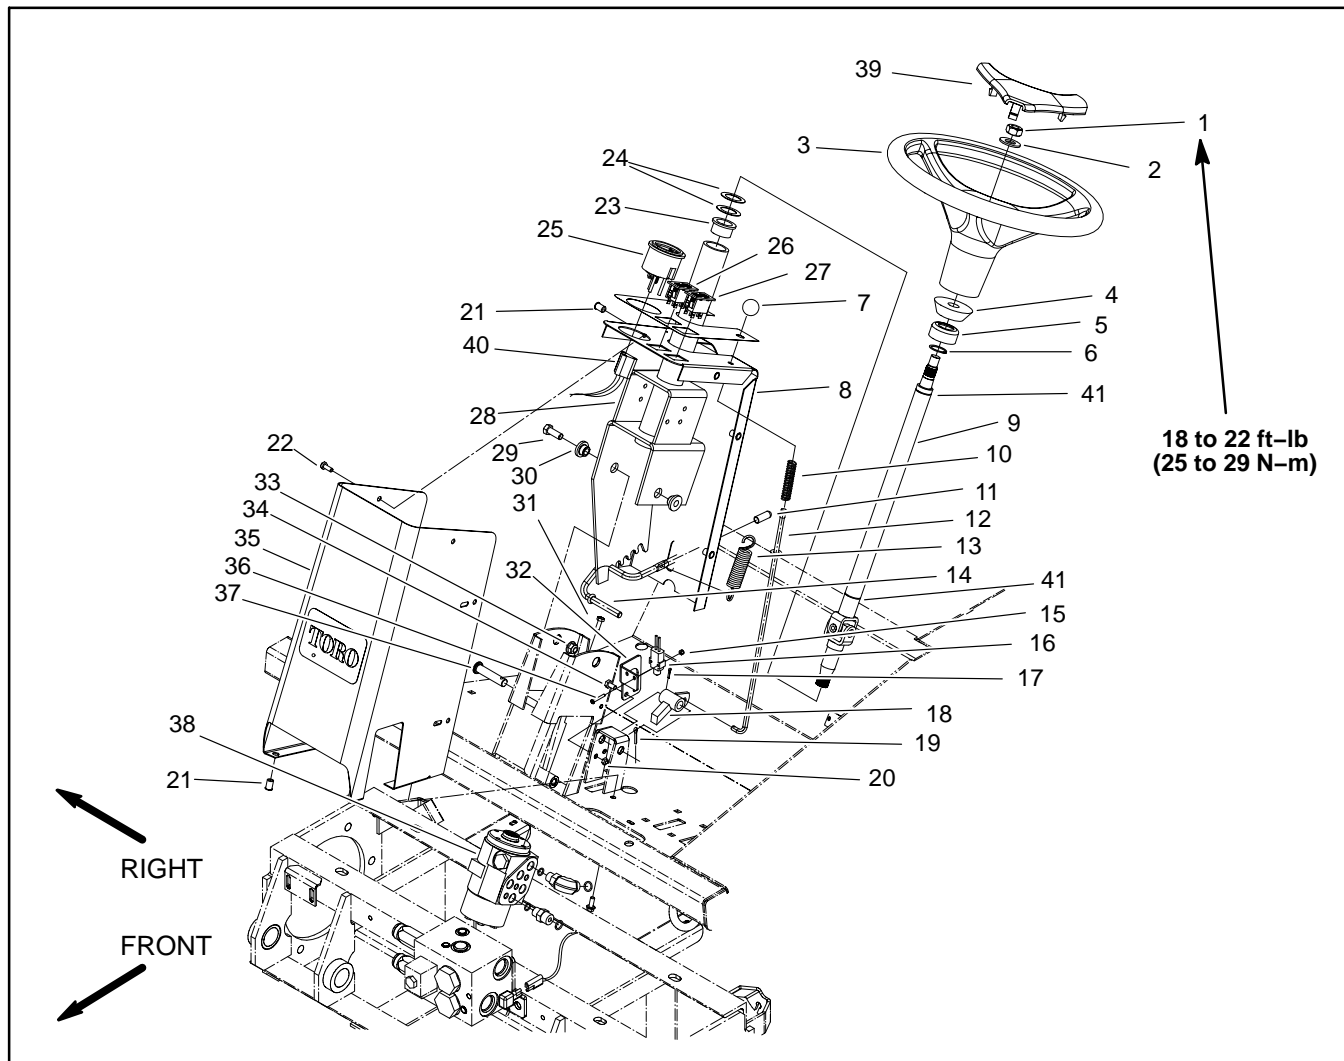

Figure 1
2. Disassemble steering tower as needed using Figure 1 as a guide.
1. Assemble steering tower using Figure 1 as a guide.